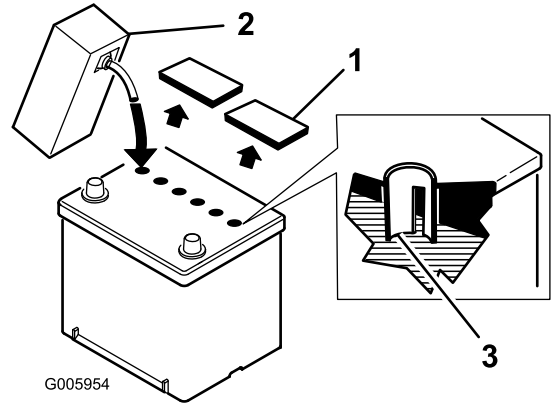

Figure 4
4. Clean the top of the battery and remove the vent caps (Figure 4).
5. Slowly pour electrolyte into each battery cell until the level is up to the **lower** part of the tube (Figure 4).
8. Slowly pour electrolyte into each cell until the level is once again up to the **lower** part of the tube (Figure 4) and install the vent caps.